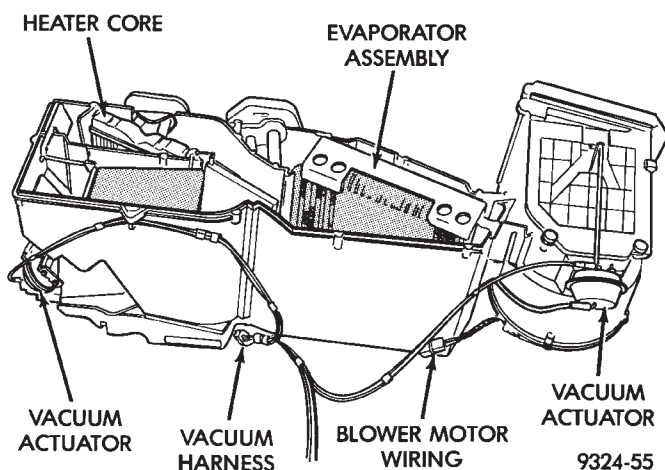

Fig. 5 Evaporator Heater Assembly
(7) Remove four screws attaching fresh/recirculation cover to unit and lift off cover (Fig. 5).
(8) Fresh/recirculating door may now be removed from its housing.
(9) To remove heat defrost door, remove retaining clip from shaft inside the housing. Pull shaft from housing and remove door.